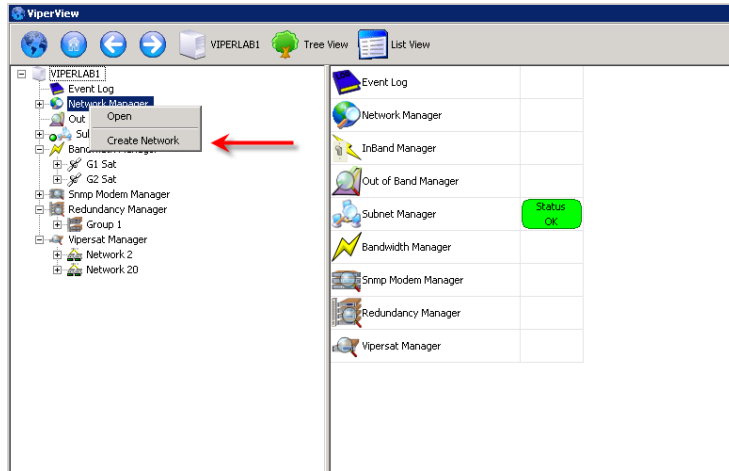

Figure 3-42 Creating the Network
1. From the Tree View, right-click on the Network Manager icon and select **Create Network** (figure 3-42).